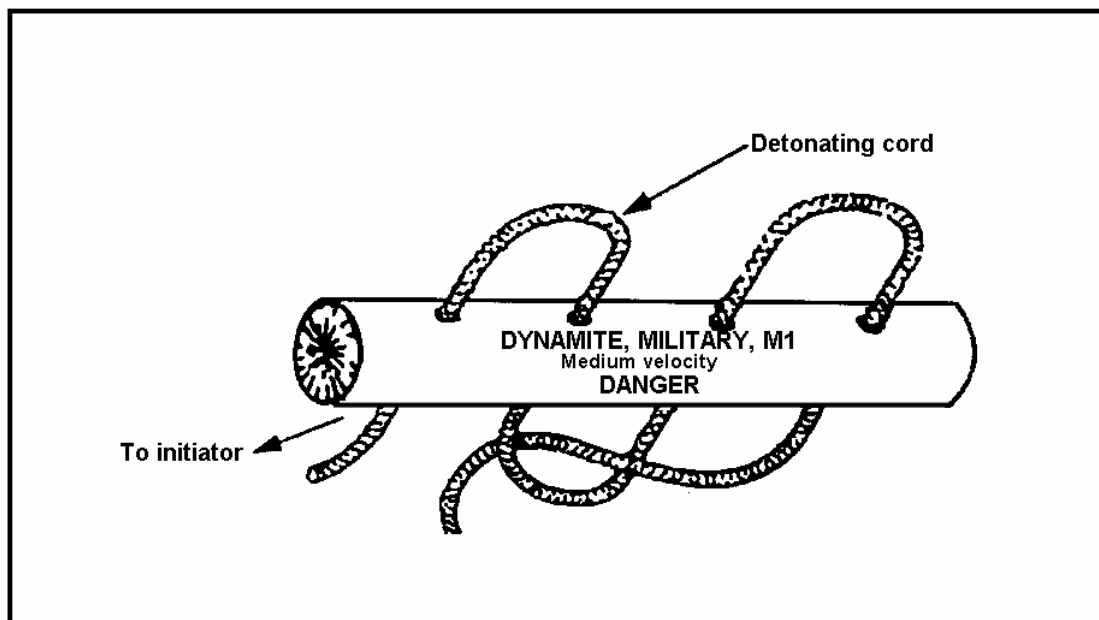

Figure 052-193-1311-6
- c. Secure the detonating-cord tail by passing it between the detonating-cord lace and the dynamite charge (Figure 052-193-1311-6).
5. Prime a 40-pound cratering charge (Figure 052-193-1311-7).